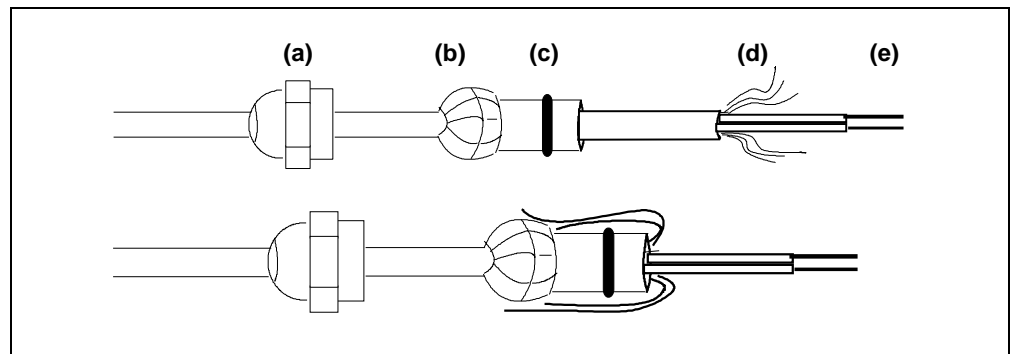

Figure 9:
- Slacken metal nut **(a)** of the PG7 cable screwed connections on the right part of the housing of on the SONOMETER 05 and pull the nut over the cable (see Figure 9).